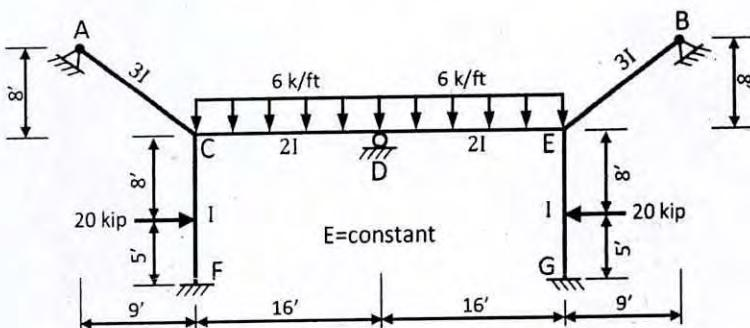

Fig.5
5. Analyze the plane frame of Fig. 5 using moment distribution method and determine the reaction at support D. (21)